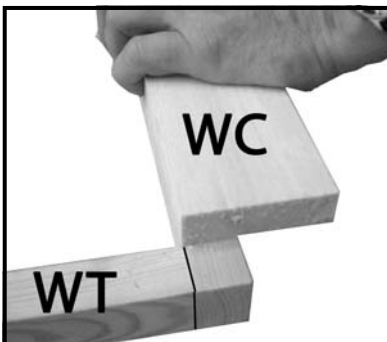

Fig A4
11. Place one of the **WC** parts on top of the **WA** parts level with the inside of the frame and the bottom of the **WT** part (fig A4).